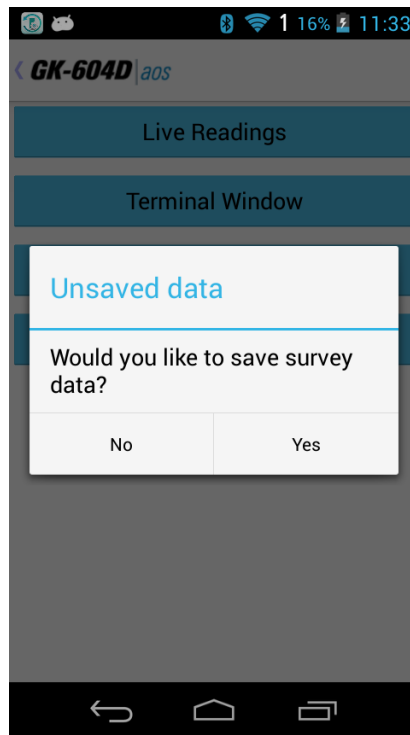
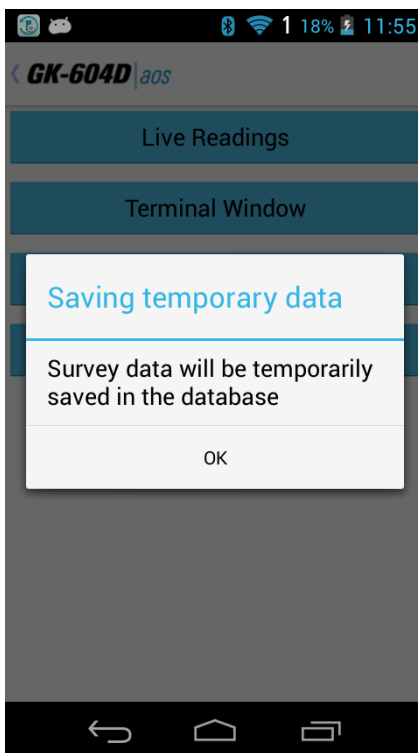
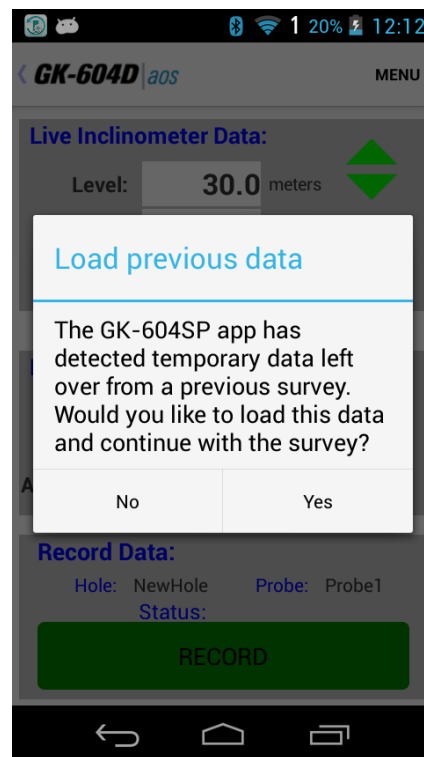

Figure 63 - Unsaved Data Prompt
Figure 64 - Saving Temporary Data
Figure 65 - Load Previous Data Prompt
- 10) When done taking readings, tap GK-604D | aos to dismiss the Live Readings screen. The application will detect if readings have been recorded and if so, an opportunity to save the readings will be presented to the user (Figure 63)
- If “No” is selected from the Unsaved Data Prompt (Figure 63), the readings will be saved to a temporary database table and can be restored the next time “Live Readings” is entered (see Figure 64 and Figure 65).
- If “Yes” is selected from the Unsaved Data Prompt (see Figure 63), then the readings will be saved to the database and the survey will be saved with the name given to it in the Survey Metadata Settings (see Section 3.2.1.1, Survey Metadata topic). If no name was entered in the Survey Metadata Settings, the survey will be saved using a three-digit numerical suffix combined with the “Hole” name. For example, if there were four previous surveys saved for a hole with the name of “HL123_Dam75”, the new survey would be named: “HL123_Dam75_005”.